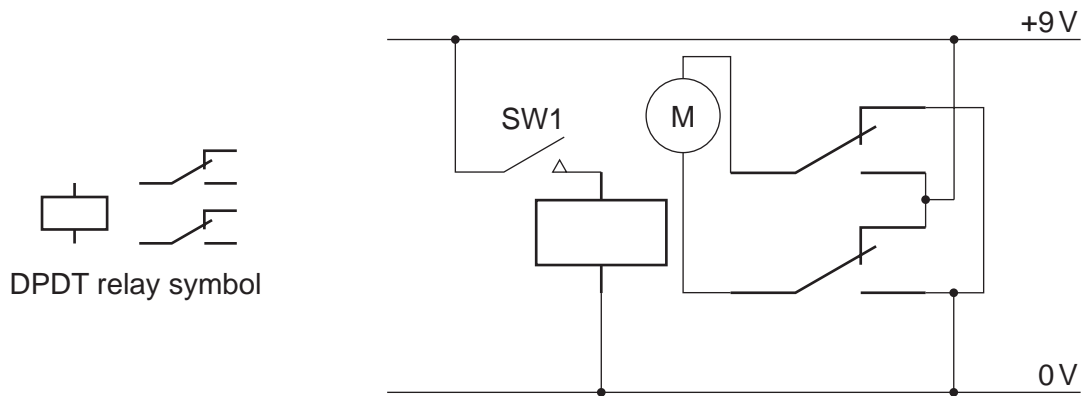

Fig. 20
- (b) A radio-controlled toy car can be made to reverse when a push-to-make switch, **SW1**, connected to the coil of a DPDT relay, is pressed. The circuit is shown in Fig. 20.